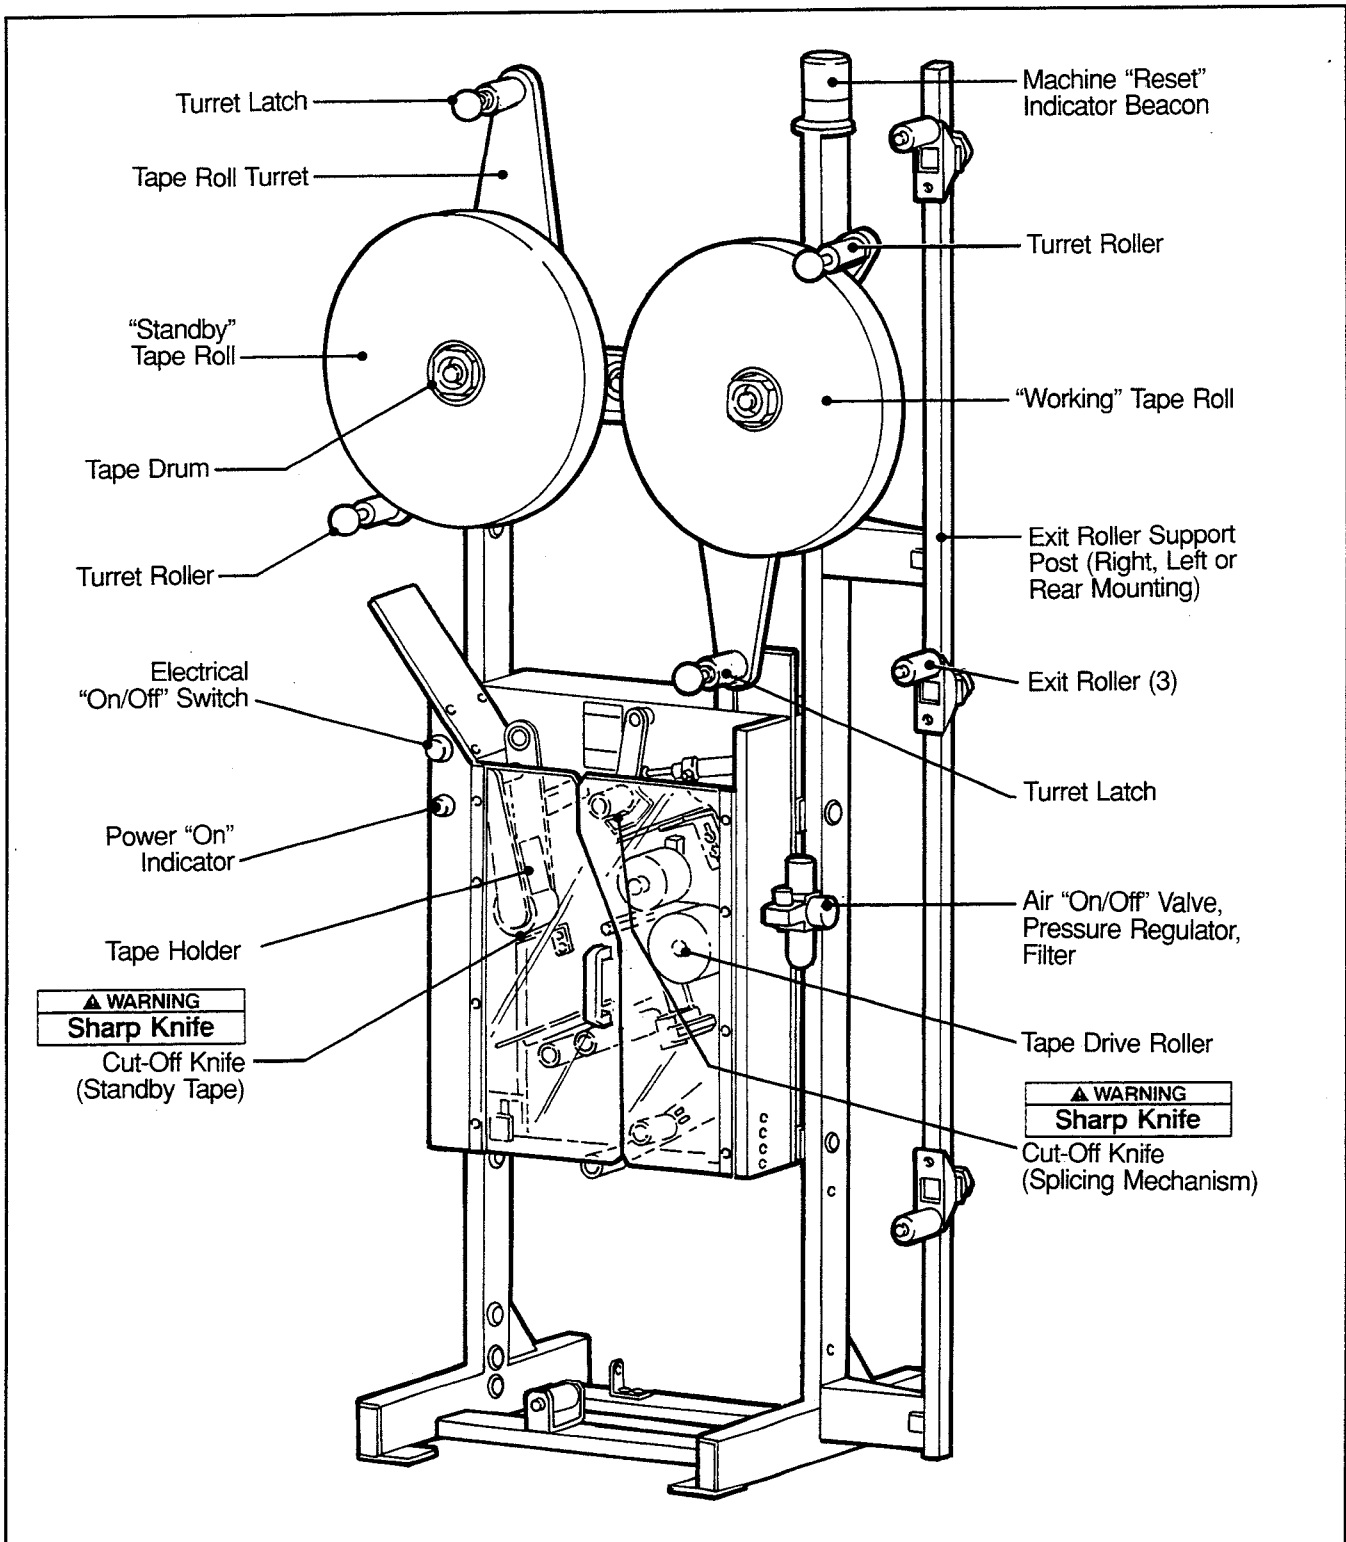

Figure 3-1 – CTS Components
Refer to Figure 3-1 to acquaint yourself with the various components of the CTS splicer, especially the location of the two tape cut-off blades.
2. The two tape cut-off knives are **extremely sharp**. Before loading or threading tape refer to Figure 3-1 and identify the blade locations. Keep hands out of this area except as necessary to thread tape and then use caution to prevent injury.